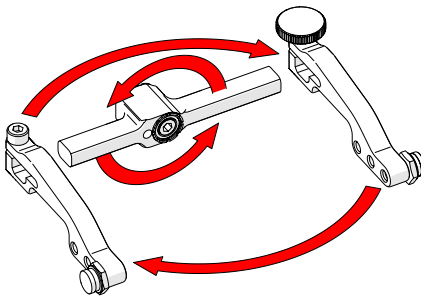

Fig. 130 - Flip yoke and reverse arms
4. Flip the yoke 180° and reverse the probe holder arms (Fig. 130).